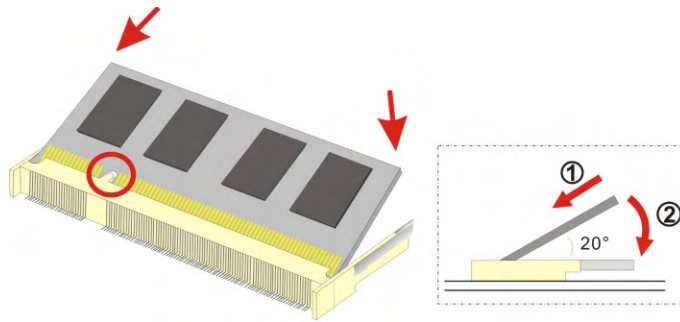

Figure 4-1: SO-DIMM Installation
To install a SO-DIMM into a SO-DIMM socket, please follow the steps below and refer to Figure 4-1.
- Step 3:** **Insert the SO-DIMM.** Push the SO-DIMM chip into the socket at an angle. (See Figure 4-1)
- Step 4:** **Open the SO-DIMM socket arms.** Gently pull the arms of the SO-DIMM socket out and push the rear of the SO-DIMM down. (See Figure 4-1)